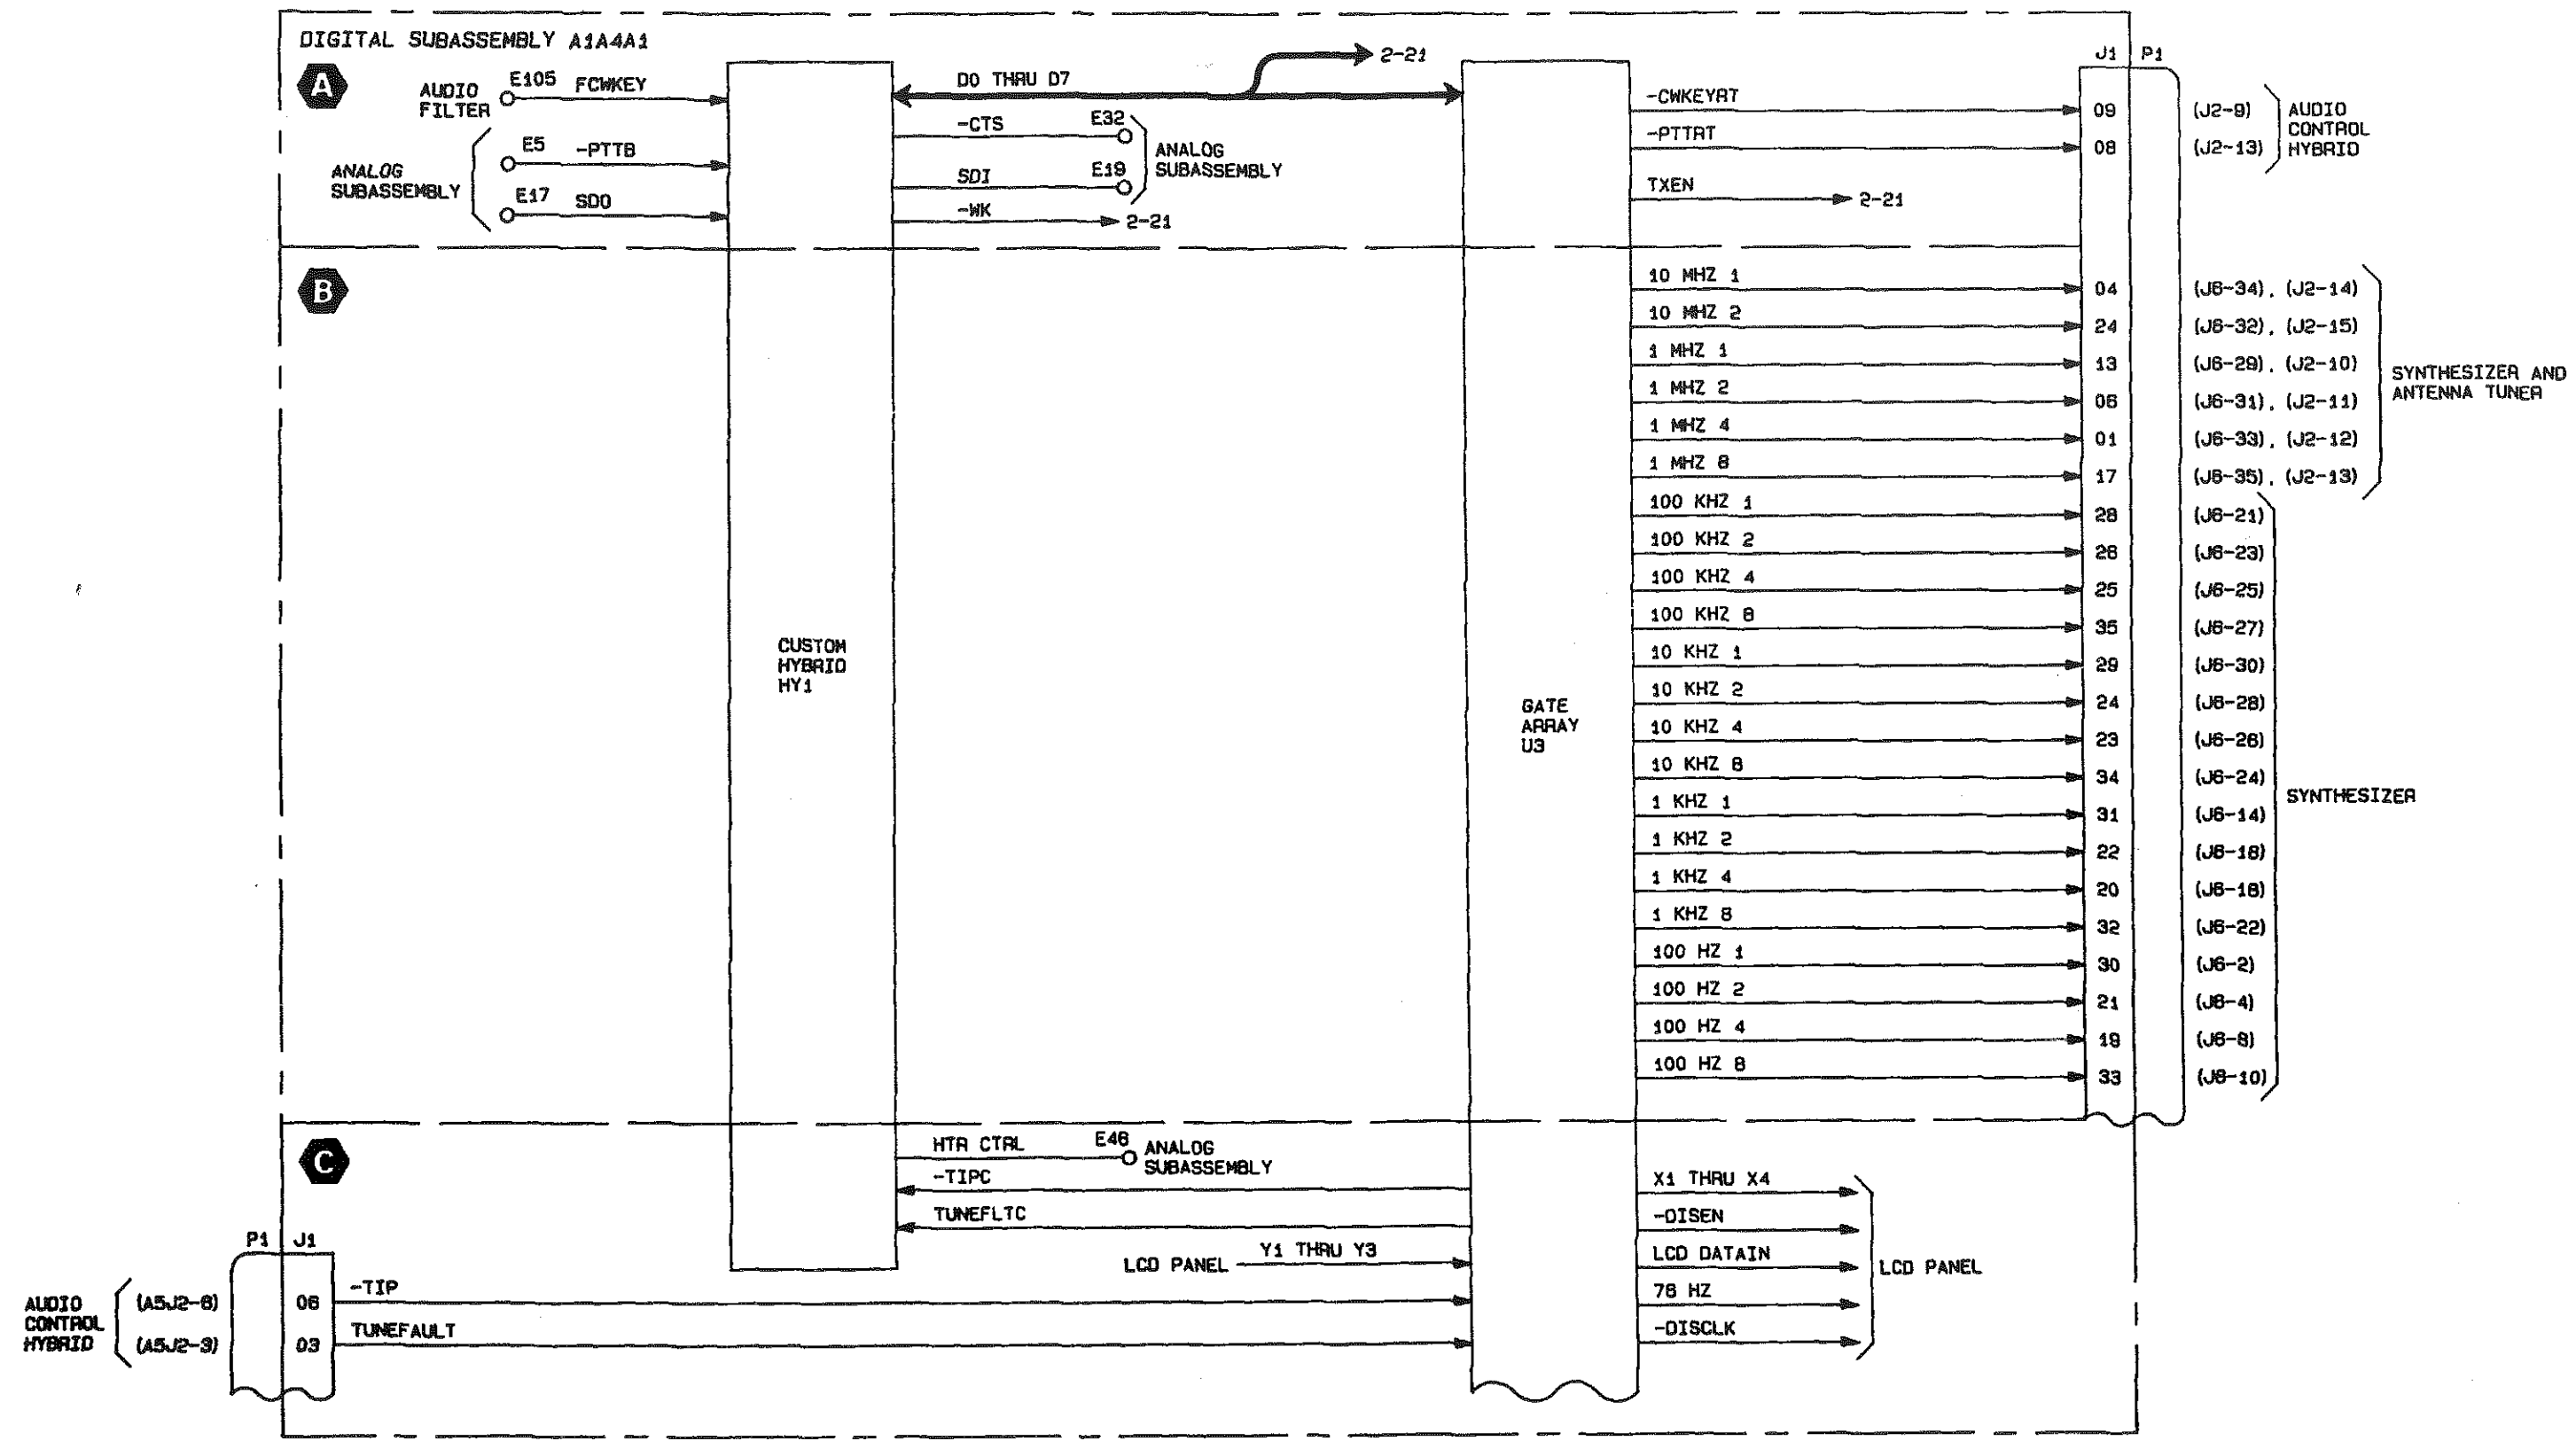

Figure 2-7. Control Interface Assembly (Sheet 1)
**CONTROL INTERFACE ASSEMBLY (3 of 7), fig 2-7, sh 2**